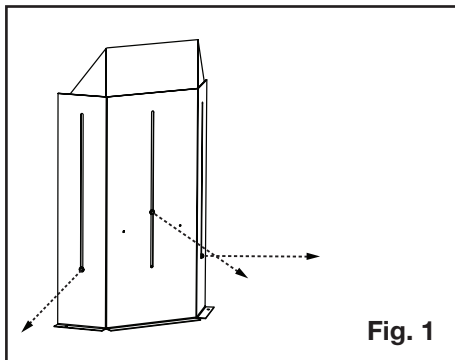

Fig. 1
1. Loosen the fasteners on the vent shield assembly. DO NOT DISCARD FASTENERS (Figure 1).